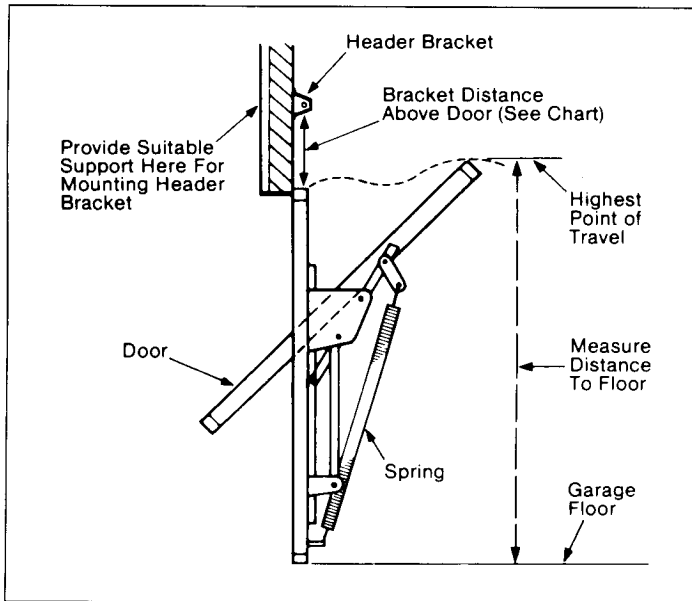

Figure 29
Step 62: Establish the high-rise point of the door. That is its highest point of travel when it opens or closes (see Figure 29). To establish this point, open the door and measure the distance between its highest point of travel and the floor. Next, measure the height of the door. The difference is the door rise.